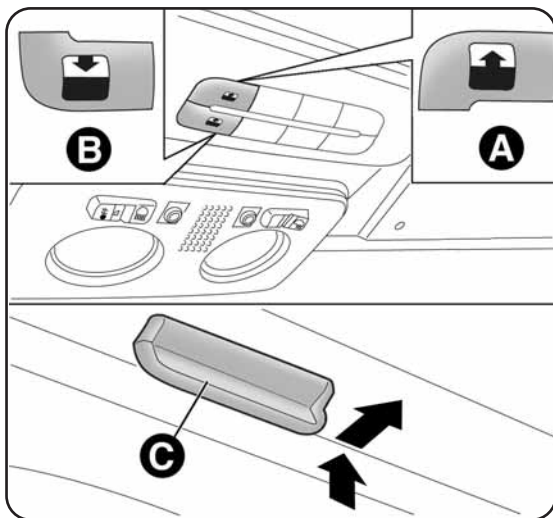

fig. 49
The large electric sunroof comprises two panes of glass; the front one is mobile and the rear one fixed. These are equipped with two sun blinds (front and rear) that can be moved manually. With the sunroof closed, the blinds can be placed in any position. To open the blinds: grip handle C-fig. 49, and move the blind to the required position by following the direction of movement shown by the arrow. To close it, repeat the same operation in the opposite direction. The sunroof can only be operated when the ignition key is on MAR. Controls A-B fig. 49 on the front courtesy light panel control sunroof opening/closing.
Press and hold down button B-fig. 49. The front glass panel will move into the spoiler position; press button B once again and hold down for more than half a second to automatically move the sunroof to an intermediate position ("Comfort" position). Pressing the opening control once again and holding it down for more than half a second will move the sunroof automatically to the end of travel; the sunroof glass can be stopped at any time in an intermediate position by pressing the button once again.
When the sunroof is in the fully opened position, press button A-fig. 49; if the button is held down for more than half a second, the front sunroof glass will automatically move to the intermediate position (“Comfort” position). If the button is pressed once again and held down for more than half a second the sunroof will move to the spoiler position. Pressing the close button once again will completely close the sunroof.
- press button A-fig. 49 until the sunroof is completely closed. Release the button;